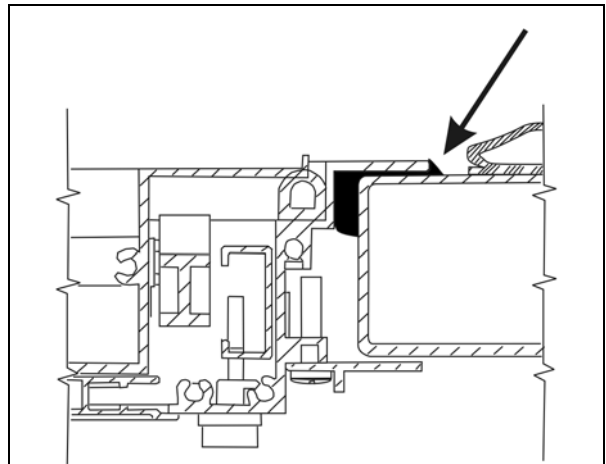

FIGURE 72 : SMOOTH DOWN THE JOINT
- Open the awning window manually and smooth down the joint (FIGURE 72) and remove glue in excess with Sika 208;